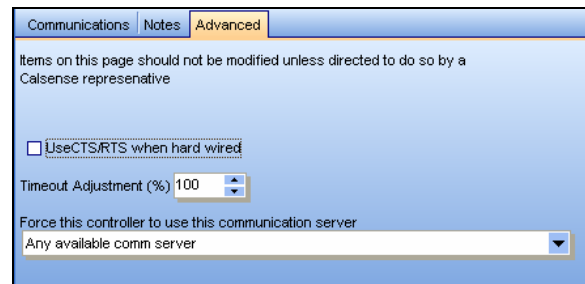

Figure 4.2.5
- Force this controller to use this communications server (Figure 4.2.5).